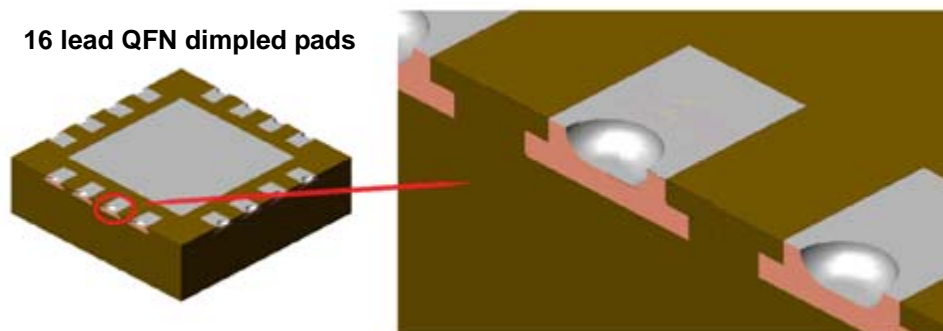
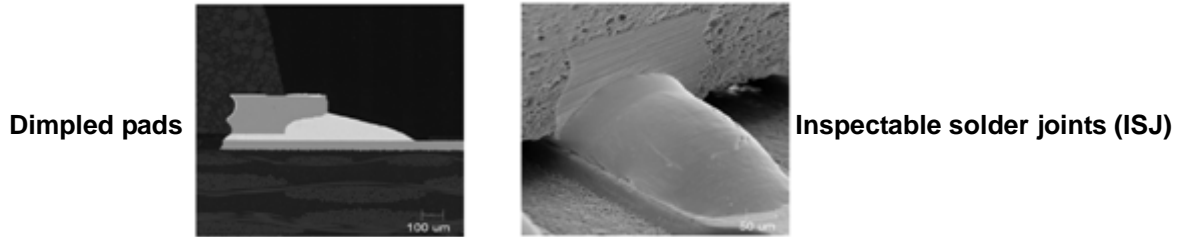

Figure 8. 16-lead QFN dimpled pads (6 x 6 mm)
Figure 9. SEM images of dimpled pads and Inspectable Solder Joints (ISJ)
Freescale QFN *wettable flanks* (WF) are mechanical modifications to the exposed surface of QFN lead ends that are formed during the half-etching step of the lead frame fabrication process. One version of the WF solutions is dimpled pad (Figure 8). Used with an optimized board mount process, dimpled pad improves the inspectability of the solder joints and promotes formation of the inspectable solder joints (ISJ). The ISJ can be formed and should be visible on the PCB after the solder reflow process, shown in Figure 9. However, Freescale will not guarantee the forming of ISJ for QFN WF packages in a board mount process. Fillet size and shape are highly dependent upon solder paste, stencil opening, board layout, and reflow profile. To get optimal results, follow the guidelines in Section 4.2, “PCB pad design,” on page 9.